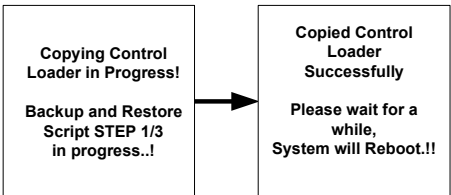

Figure 1-3 Control boot loader files copied screen
- 9. If inverter has old control boot loader, new control boot loader files will be upgraded and the LCD should display message as shown in Figure 1-3 on page 1–5.